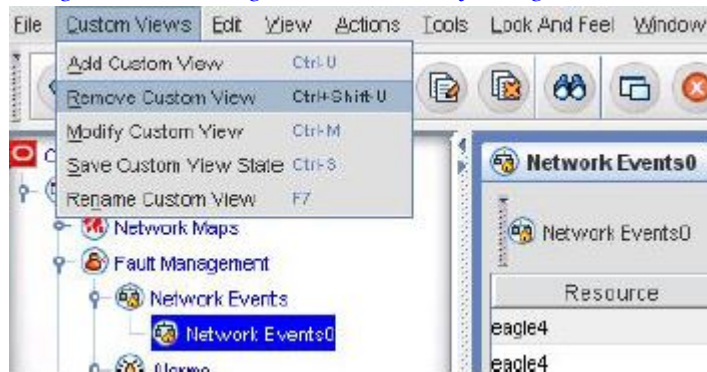

Figure 197: Deleting a Custom View By Using Menu Bar
- From the **Custom Views** menu in the top menu bar, choose **Remove Custom View** as shown in Figure 197: Deleting a Custom View By Using Menu Bar.